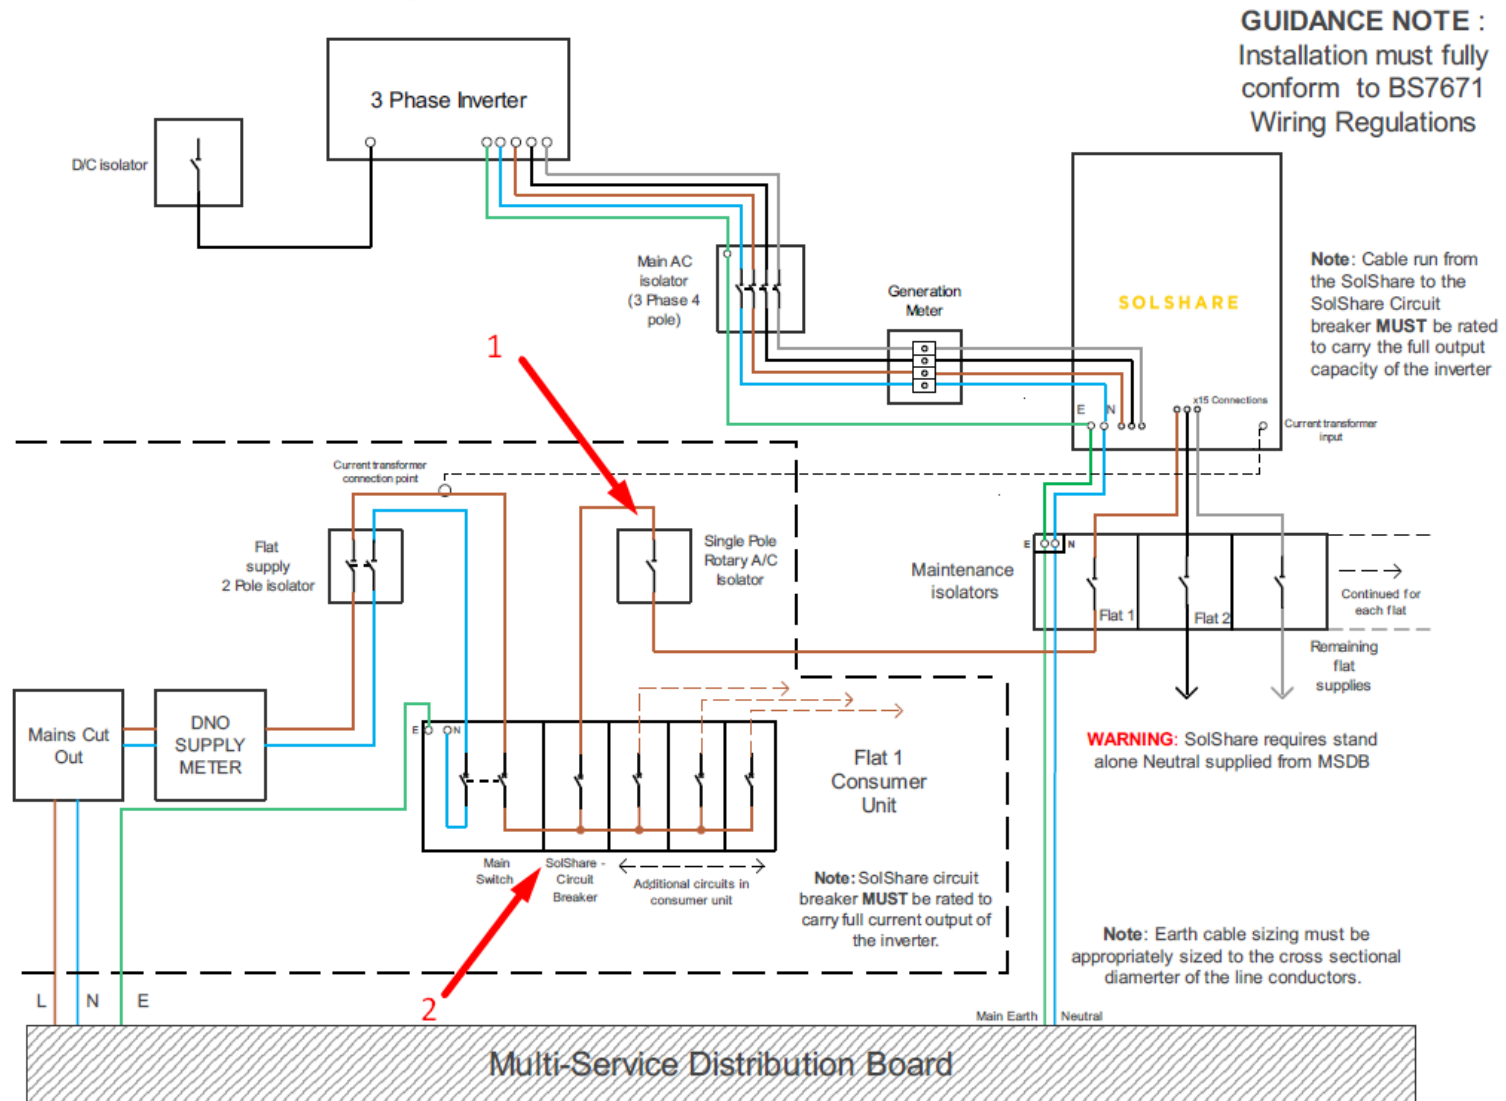

Figure 6: SLD example when energy meters are inside the flats.
- A rotary isolator must be installed locally as per standard solar regulations. This is shown in Figure 6 by arrow 1.
- A circuit breaker must be installed for cable protection of the solar output cable. This is shown in Figure 6 by arrow 2.